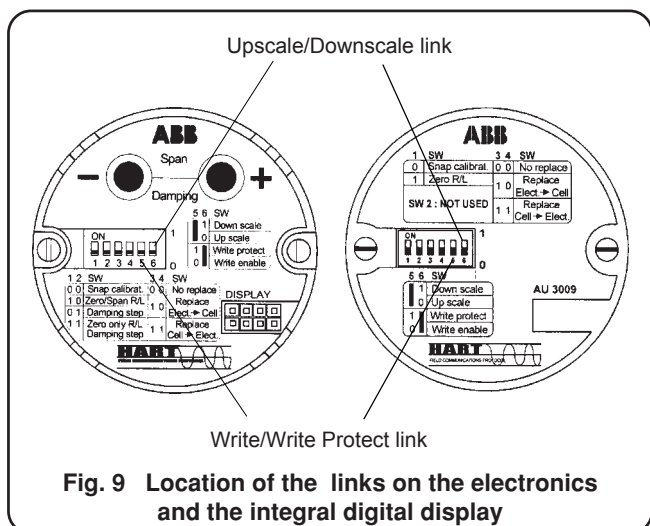

Fig. 9 Location of the links on the electronics and the integral digital display
- iv) the Upscale/Downscale link is positioned to the required function: ON for Downscale OFF for Upscale (see Fig. 9).